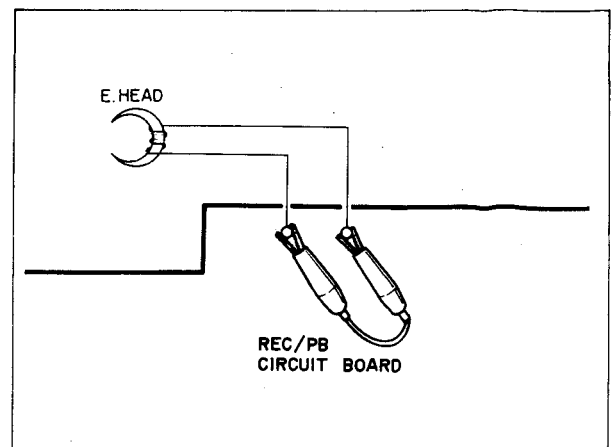

Fig. 8
- Shortcircuit the eraser head. shown in Fig. 8.